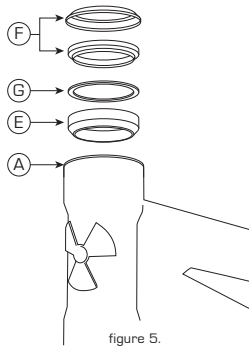

figure 5.
- 12) Place the [F] upper lock ring and bearing top cap onto the top of the headset assembly as shown in figure 5;